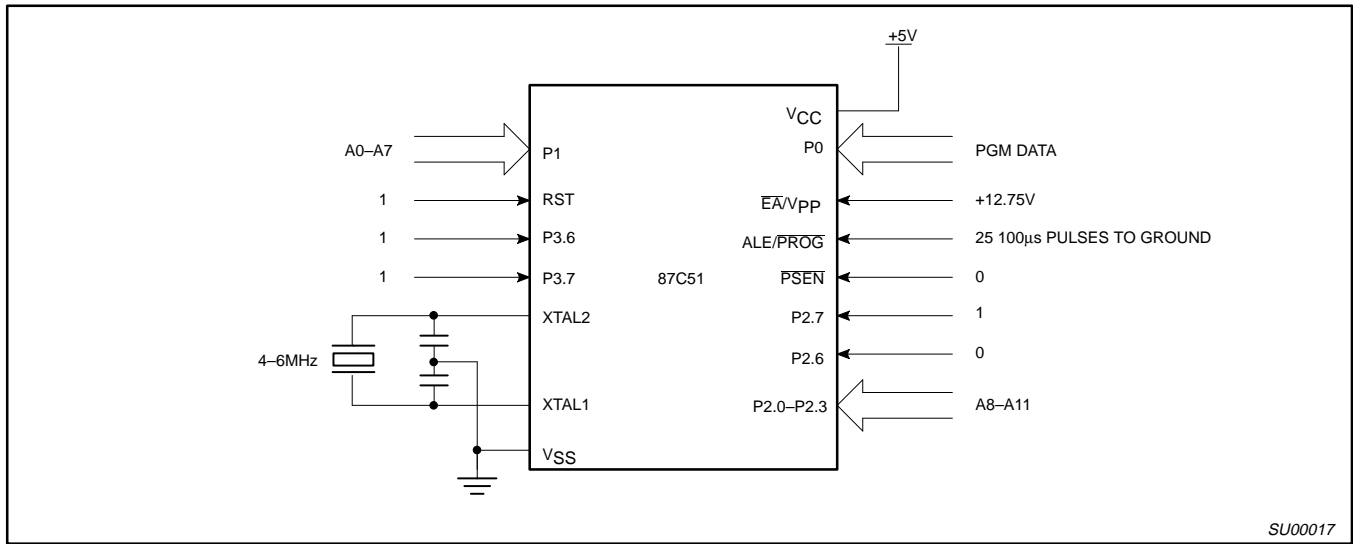
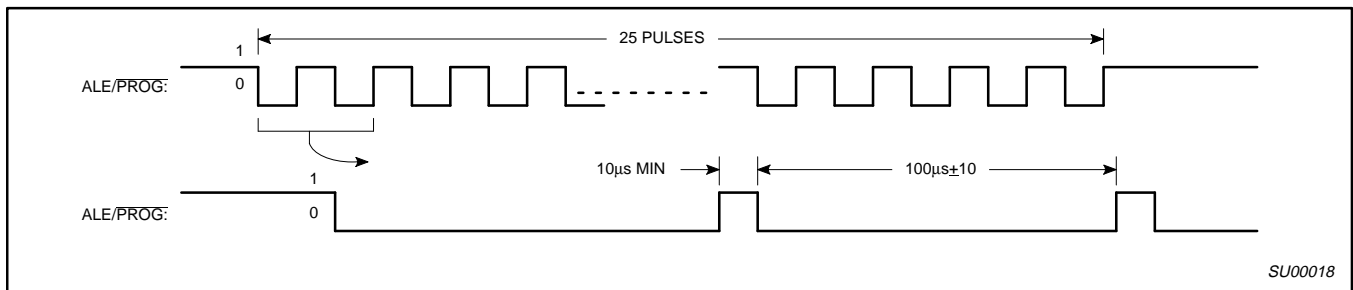
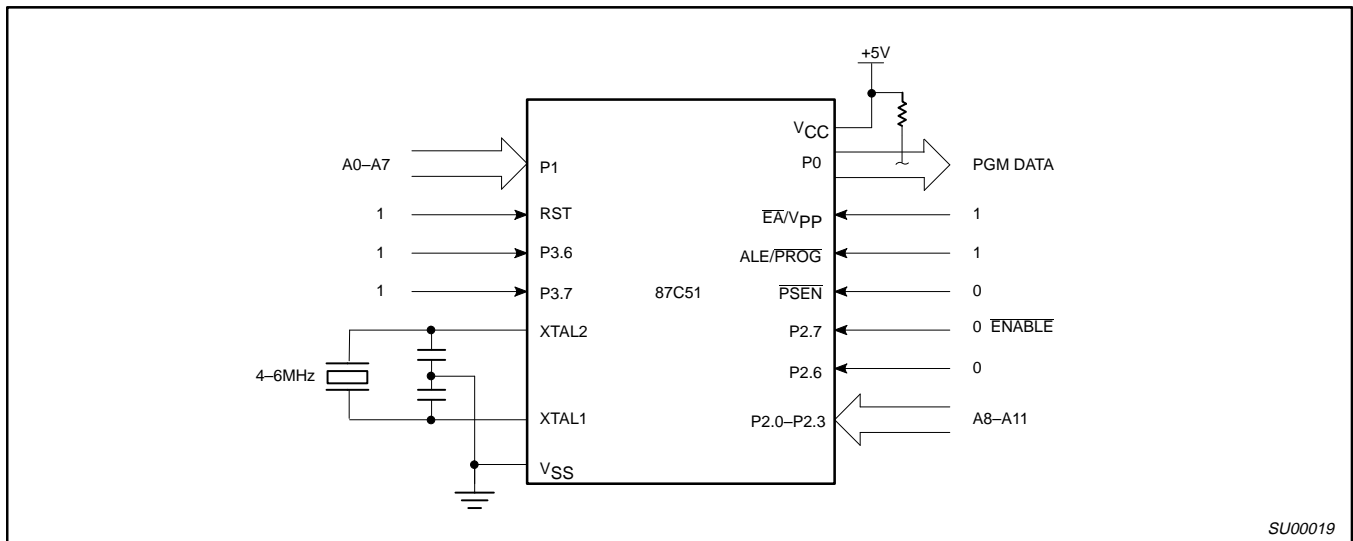

Figure 13. Programming Configuration
Figure 14. PROG Waveform
Figure 15. Program Verification
Table 3 shows the logic levels for reading the signature bytes, and for programming the program memory, the encryption table, and the security bits. The circuit configuration and waveforms for quick-pulse programming are shown in Figures 13 and 14. Figure 15 shows the circuit configuration for normal program memory verification.
The setup for microcontroller quick-pulse programming is shown in Figure 13. Note that the 87C51 is running with a 4 to 6MHz oscillator. The reason the oscillator needs to be running is that the device is executing internal address and program data transfers.
The address of the EPROM location to be programmed is applied to ports 1 and 2, as shown in Figure 13. The code byte to be programmed into that location is applied to port 0. RST, PSEN and pins of ports 2 and 3 specified in Table 3 are held at the 'Program Code Data' levels indicated in Table 3. The ALE/PROG is pulsed low 25 times as shown in Figure 14.
If security bit 2 has not been programmed, the on-chip program memory can be read out for program verification. The address of the program memory locations to be read is applied to ports 1 and 2 as shown in Figure 15. The other pins are held at the 'Verify Code Data' levels indicated in Table 3. The contents of the address location will be emitted on port 0. External pull-ups are required on port 0 for this operation.
* FOR PROGRAMMING VERIFICATION SEE FIGURE 13.
FOR VERIFICATION CONDITIONS SEE FIGURE 15.